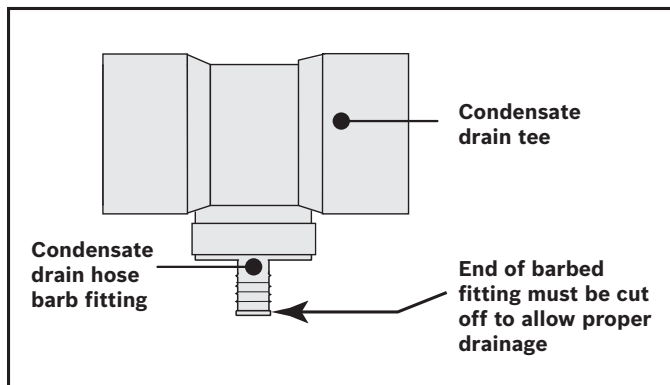

Fig. 3 Condensate drain
**i** The condensate drain hose barb fitting and the condensate drain tee must be glued. The end of the barbed fitting must be cut off to allow proper drainage. See Fig. 3.